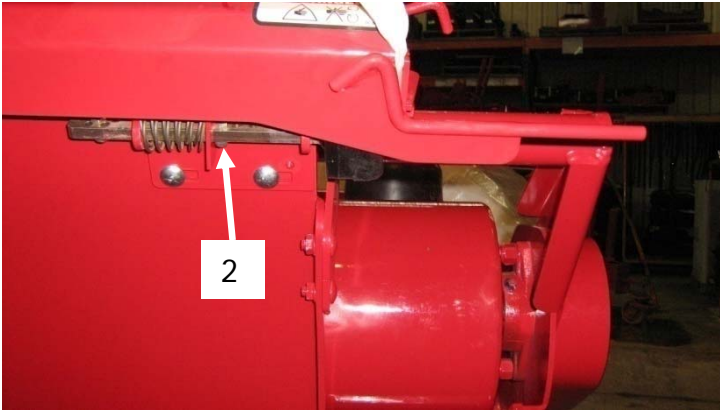

Figure 5.5 Stopper spring and adjustment bolt
-Increase the force of the stopper spring as needed. Move the bolt (2) holding the spring in a hole, thereby making it possible to further compress the spring (Figure 5.5) for a better hold on the plastic.